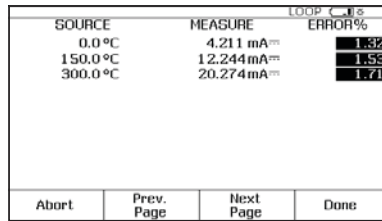

Figure 13.
4. Press the **Auto Test** softkey to begin calibration. Once the test is complete, an error summary table is displayed (Figure 13). Test errors exceeding the tolerance are highlighted. When done viewing the table, press the **Done** softkey. Press **Done** again to accept, or **ENTER** to change the tag, serial number or ID fields.